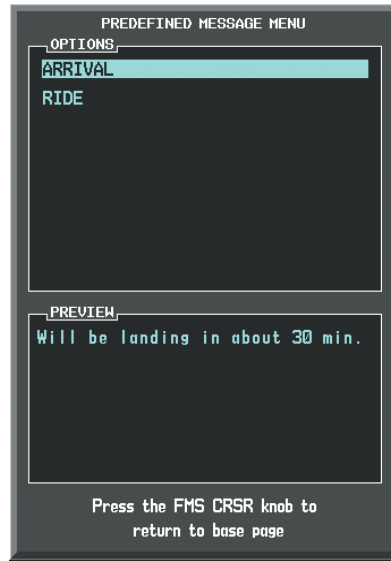

Figure 8-92 Predefined Message List
- 4) Select the **PREDEFD** Softkey. The PREDEFINED MESSAGE MENU Window is displayed as seen in Figure 8-92.